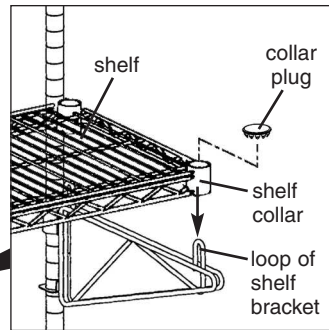

figure 6
- Lay shelf (shelves) on top of wall bracket(s), and cover shelf collar openings with collar plugs (see *figure 6*).
- Lay each shelf on top of wall brackets, and cover shelf collar openings with collar plugs (see *figure 6*).